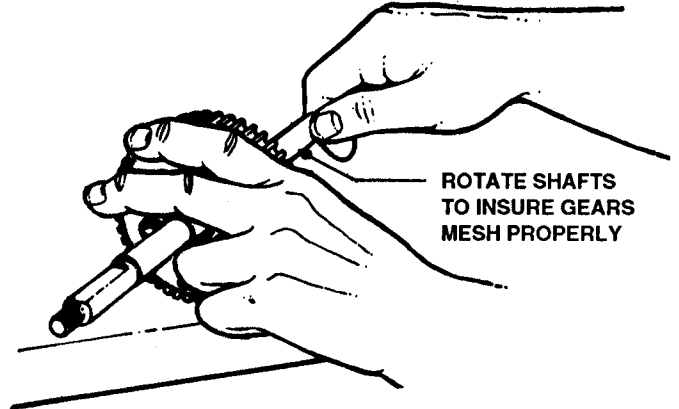

FIGURE 5.13
- Test Rotate Shafts to insure Gears mesh properly before installing completed Bull Gear - Axle Assembly in Transmission Housing. See Figure 5.13.